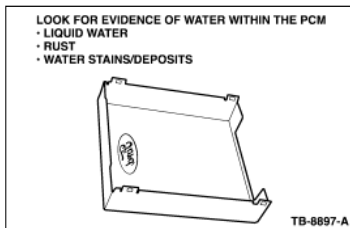

Figure 2 - Article 07-14-1
3. Look for evidence of water within the PCM (liquid water, rust, water stains or deposits). (Figure 2) If found - obtain a replacement PCM before continuing on to Step 4. If no water is found, continue on to step 4 with the vehicle's original PCM.